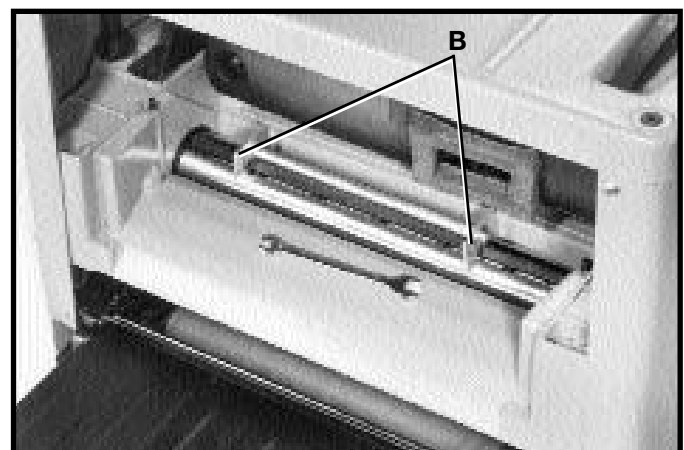
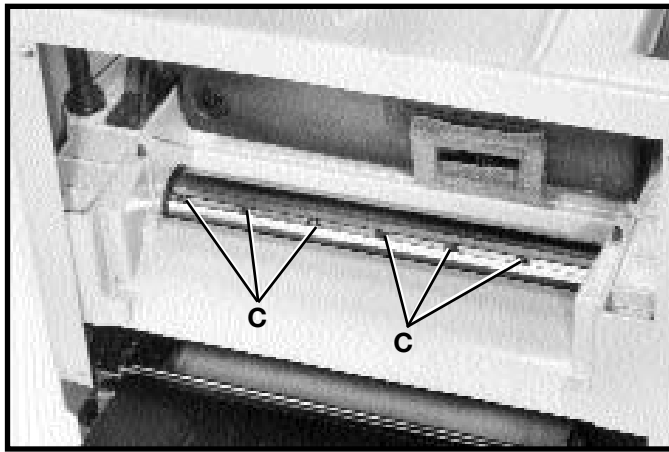
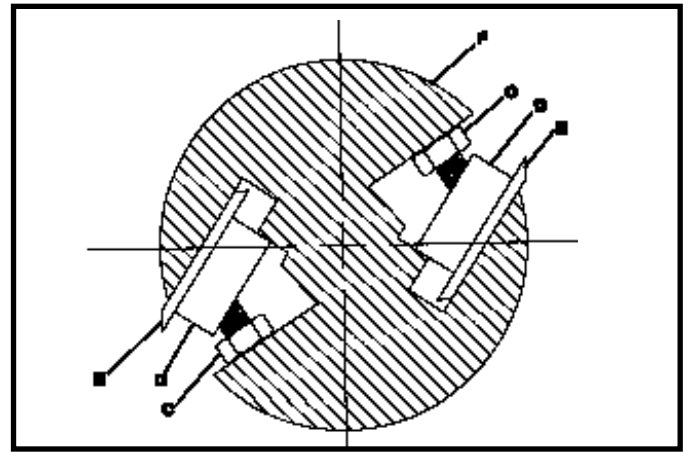

Fig. 20
Fig. 21
Fig. 22
4. Carefully place knife setting gage (B) Fig. 20, on the cutterhead so the rounded sections are directly over the knife as shown. When adjusted correctly, the knife should just contact the bottom of the center portion at each end of gage (B). Check the other knife in the same manner.
5. If an adjustment to one or both knives is necessary, slightly loosen the seven locking screws, six of which are shown at (C) Fig. 21, by turning the screws **CLOCKWISE** into the knife locking bar just enough to relieve stress in the cutterhead and not disturb the knife setting.
6. With setting gage (B) Fig. 20, in place, apply pressure to the knife being reset. Turn the seven knife locking screws (C) Fig. 21, **CLOCKWISE** until the knife locking bar becomes loose. Lift springs will automatically raise the knife until it comes in contact with gage (B) Fig. 20. Snug the knife locking bar by lightly turning the seven locking screws (C) Fig. 21, **COUNTERCLOCKWISE**. **IMPORTANT: AT THIS TIME, ONLY TIGHTEN THE KNIFE LOCKING BAR JUST ENOUGH TO HOLD THE KNIFE IN POSITON INSIDE THE CUTTERHEAD SLOT.**
8. After both knives are positioned in the cutterhead, turn each of the seven screws, six of which are shown at (C) Fig. 21, **COUNTERCLOCKWISE** until the knife is secure in the cutterhead. **NOTE:** When tightening knife locking screws, tighten the end screws first, then inward toward the center of the cutterhead.
4. Carefully place knife setting gage (B) Fig. 20, on the cutterhead so the rounded sections are directly over the knife as shown.
5. Loosen the knife locking bar by turning the seven knife locking screws, six of which are shown at (C) Fig. 21, **CLOCKWISE** and carefully remove knife locking bar (D) Fig. 22, knife (E), and springs (not shown) which are located under the knife.
8. Carefully replace the springs (not shown), knives (E) Fig. 22, and knife locking bars (D), into both slots of cutterhead (F). **IMPORTANT: WHEN REPLACING KNIFE LOCKING BARS (D) AGAINST KNIVES (E), AS SHOWN IN THE CROSS-SECTIONAL ILLUSTRATION Fig. 22, MAKE CERTAIN THE BARS ARE INSTALLED AS SHOWN, WITH SCREWS (C), POSITIONED AT THE TOP OF KNIFE LOCKING BARS (D), AND ANGLED DOWNWARD HOLDING THE KNIVES (E) PROPERLY INSIDE THE CUTTERHEAD SLOTS. TURN KNIFE LOCKING SCREWS, ONE OF WHICH IS SHOWN AT (C), COUNTERCLOCKWISE JUST ENOUGH TO HOLD BOTH KNIVES (E) IN THE CUTTERHEAD (F).**